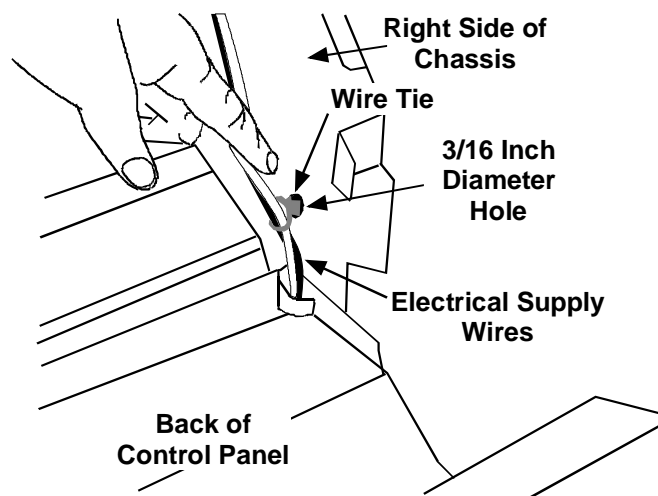

Figure 3
12. Insert the wire tie into the 3/16 inch diameter hole located just above the incoming power opening. Tie all wires together securely with the wire tie. See Figure 3.